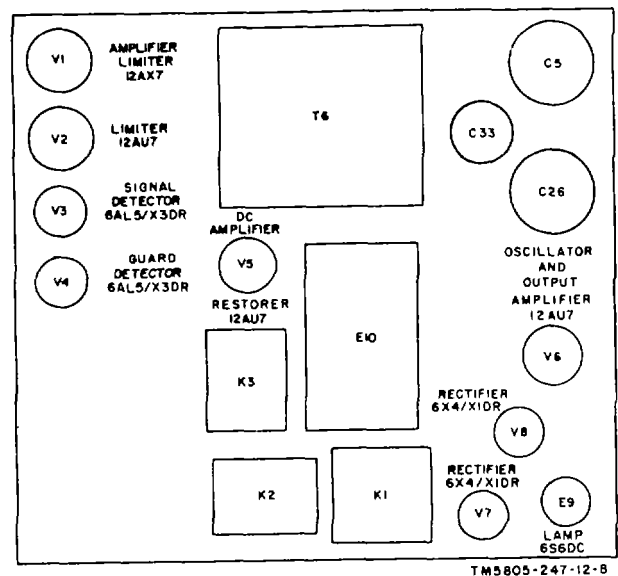

Figure 5-1. Parts location diagram.
b. Troubleshooting Chart. When using the troubleshooting chart, refer to figure 5-1 for parts locations. To remove the TA-182/U front panel and chassis assembly from the converter case, refer to paragraph 5-10.